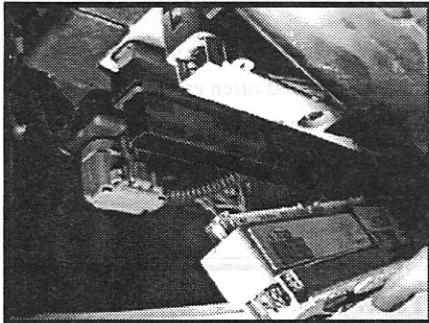

Fig. 8
8. Tighten connector bolt (9/32) on factory harness to draw the ECM into the JET PCM and factory computer. Be sure to tighten to the torque specifications on the factory harness. (see Fig. 8).